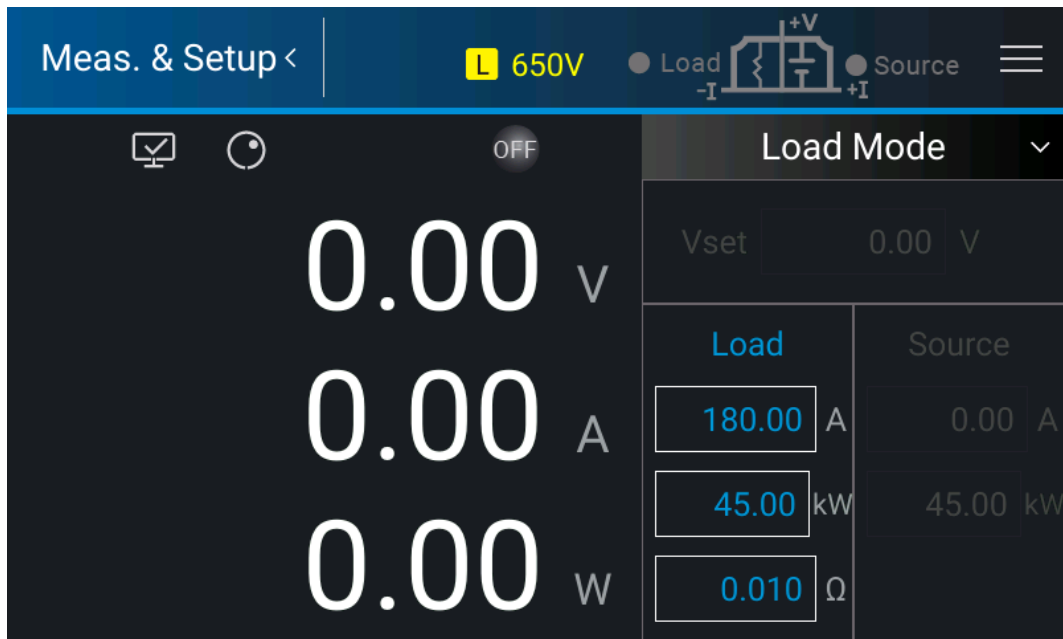

Figure 3-5
1. Tap the drop-down menu and select Load Mode; the panel will switch to the screen as Figure 3-5 shows.